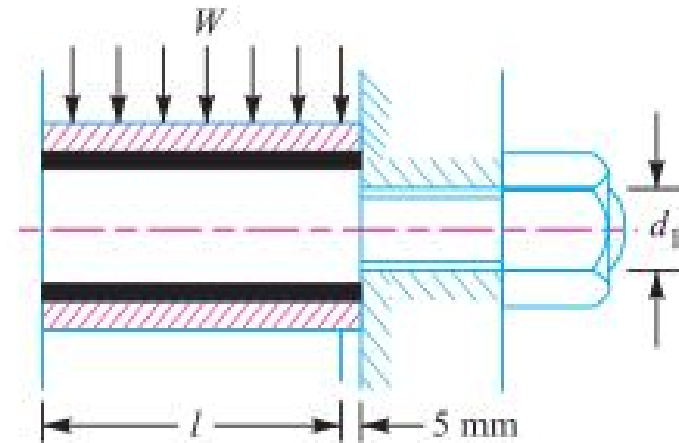

Fig. 13.16.
Since the pin and the rubber or leather bush is not rigidly held in the left hand flange, therefore the tangential load (W) at the enlarged portion will exert a bending action on the pin as shown in Fig. 13.16. The bush portion of the pin acts as a cantilever beam of length l . Assuming a uniform distribution of the load W along the bush, the maximum bending moment on the pin,